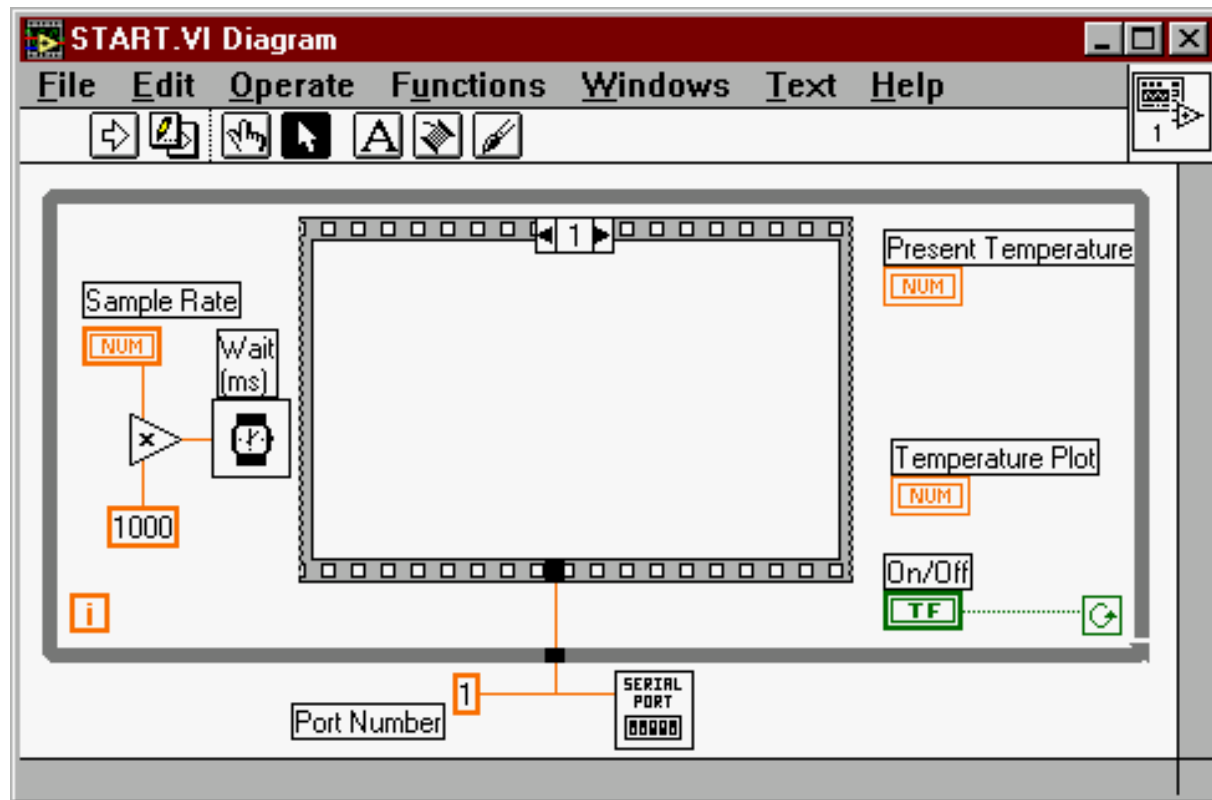

Figure 8 : Adding a Step
- This is done by right clicking on the sequencer frame indicator and selecting " ADD FRAME AFTER". The sequencer will appear as shown in Figure 8